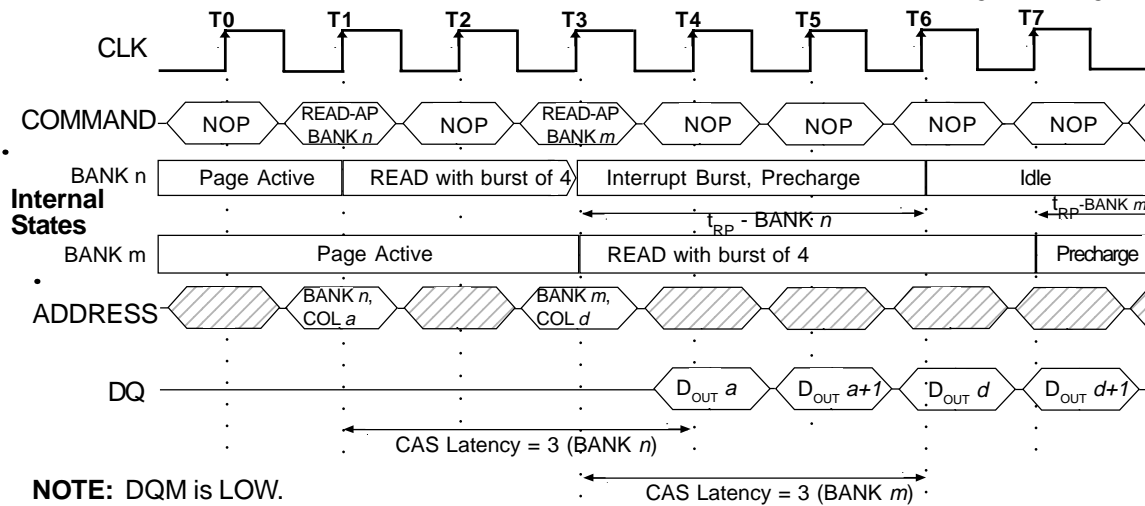

Figure 24
1. Interrupted by a READ (with or without AUTO PRECHARGE): A READ to bank m will interrupt a READ on bank n, CAS latency later. The PRECHARGE to bank n will begin when the READ to bank m is registered (Figure 24).